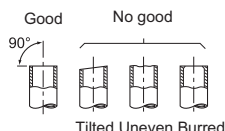

Fig. 2
- If the drain hose provided with the indoor unit is too short, connect it with drain hose (I) that should be provided at your site. (Fig. 2)
- 3) Pull out the drain hose at the rear left of the indoor unit. (Fig. 2)